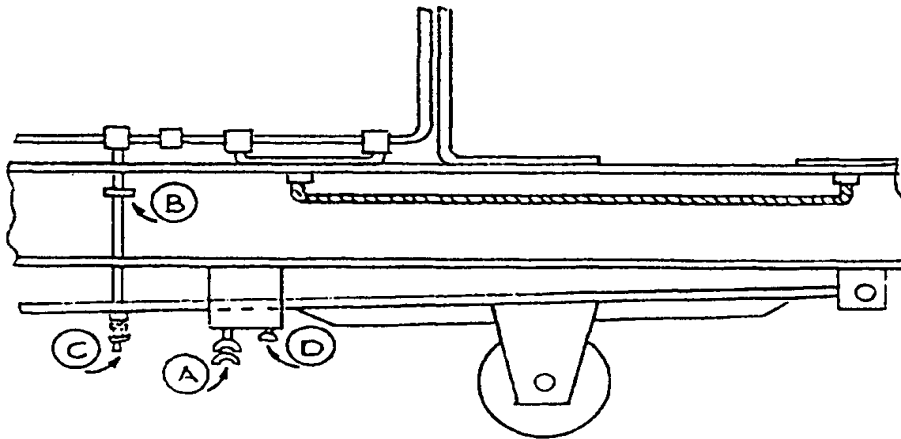

Figure 1
- 4.1 Quickly check for accuracy by hooking the spring-loaded line underneath the wheels as shown in Figure 1.